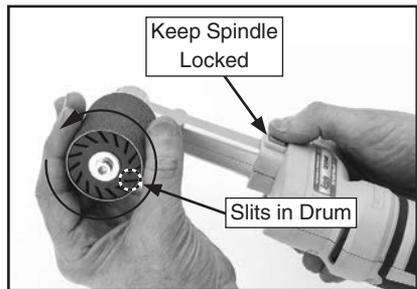

Figure 14. Removing sanding sleeve.
3. Press spindle lock button to prevent spindle rotation during following steps (see **Figure 14**).
4. With spindle locked, rotate sanding sleeve in direction of slits in sanding drum, while simultaneously pulling sleeve off of drum (see **Figure 14**).